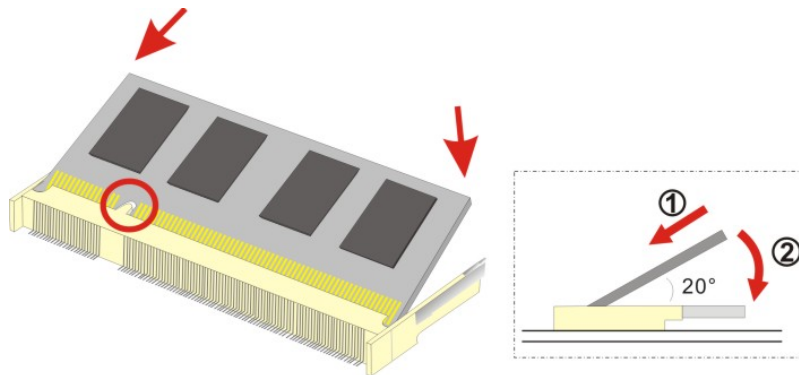

Figure 3-11: SO-DIMM Installation
Step 4: Align the SO-DIMM with the socket. The SO-DIMM must be oriented in such a way that the notch in the middle of the SO-DIMM must be aligned with the plastic bridge in the socket (**Figure 3-11**).
Step 5: Push the SO-DIMM into the socket at an angle (**Figure 3-11**).
Step 6: Gently pull the arms of the SO-DIMM socket out and push the rear of the SO-DIMM down (**Figure 3-11**).